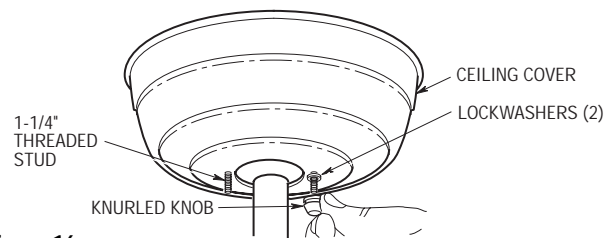

Figure 16
- 6. Slide the receiver up and over the hanger bracket. Press the receiver against the ceiling, holding it in place while installing the ceiling cover. Lift the ceiling cover up to the threaded studs and turn until studs protrude through the holes in the ceiling cover (Figure 16).
- 7. Secure the ceiling cover in place by sliding lock-washers over the threaded studs and installing the two knurled knobs (supplied) (Figure 16). Tighten the knurled knobs securely until the ceiling cover fits snugly against the ceiling. Your fan is now wired to be controlled using the remote control transmitter.